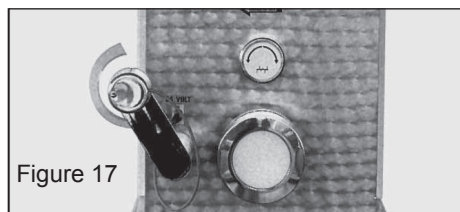

Figure 17
- Rotate the cutting group to the stop position (Figure 17).